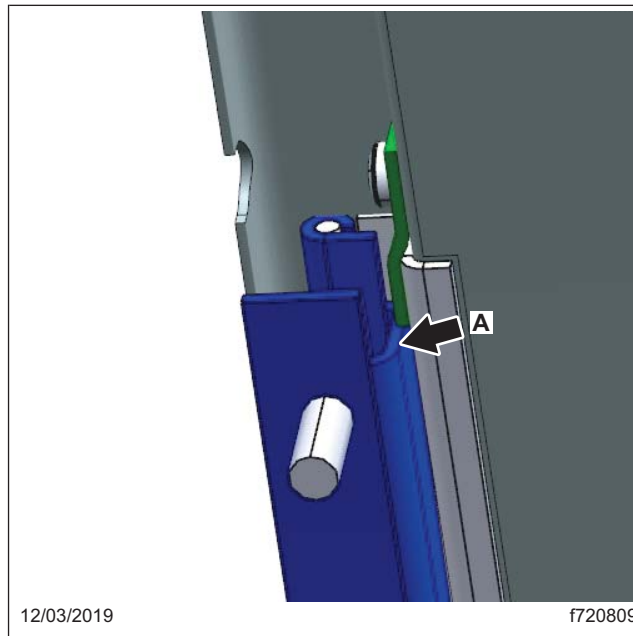

Fig. 3, Door Hinge Trim Location
6. Mark out the areas of the door hinge that will need to be trimmed to allow clearance for the new bracket. See **Fig. 3**, ref. **A**.
7. Trim the door hinge as shown in **Fig. 3**. Trimming past the bend in the hinge to allow full range of motion.